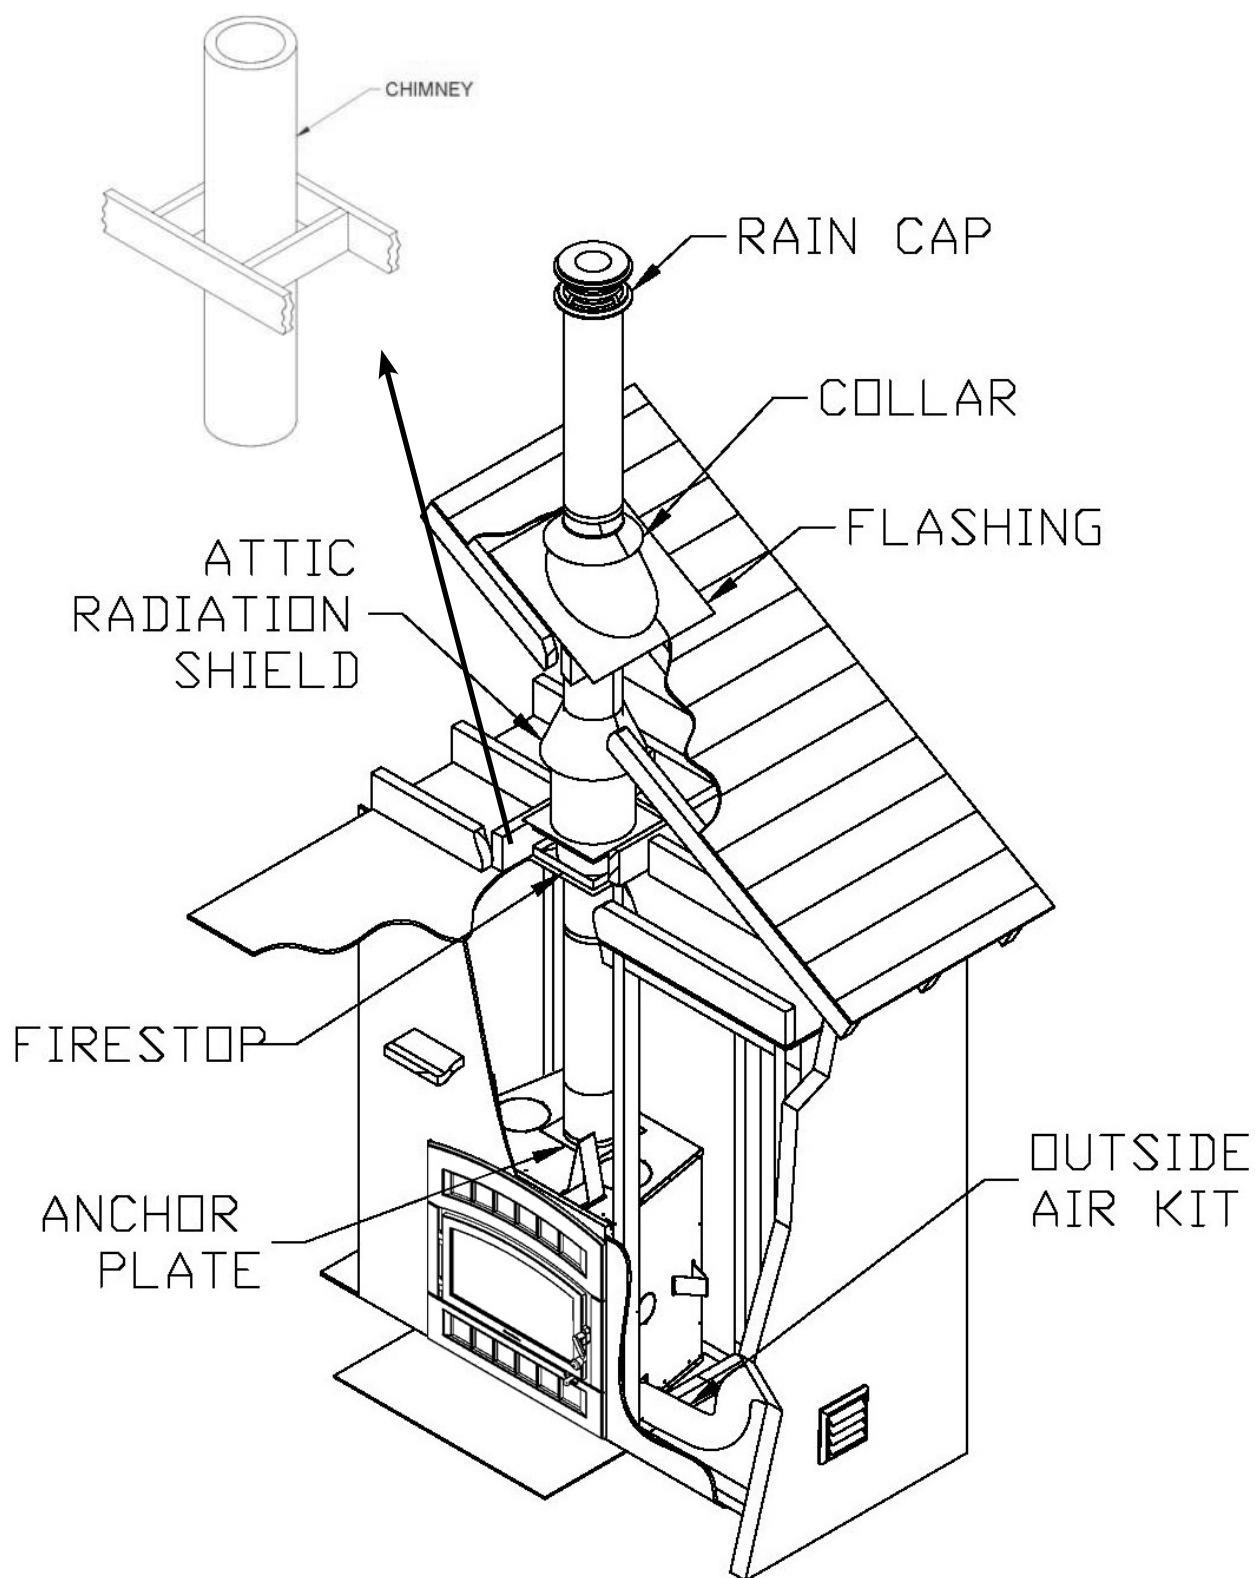

Figure 44
2. From below, install a firestop supplied by the chimney manufacturer in each ceiling/floor separation through which the chimney will pass. At the attic level, install an attic radiation shield from above (see figure 44).
3. Follow the chimney's manufacturers' instructions and place the first chimney length on the fireplace. For all chimneys, you must use an anchor plate supplied by the chimney manufacturer before installing the first chimney length (see figure 44). Continue installing chimney lengths making sure to lock each length in place.
5. Then, put the roof flashing in place and seal the joint between the roof and the flashing with roofing pitch (see figures 44). For sloping roofs, place the flashing under the upper shingles and on top of the lower shingles. Nail the flashing to the roof, using roofing nails.
5. From below, install a firestop supplied by the chimney manufacturer (see figure 44).